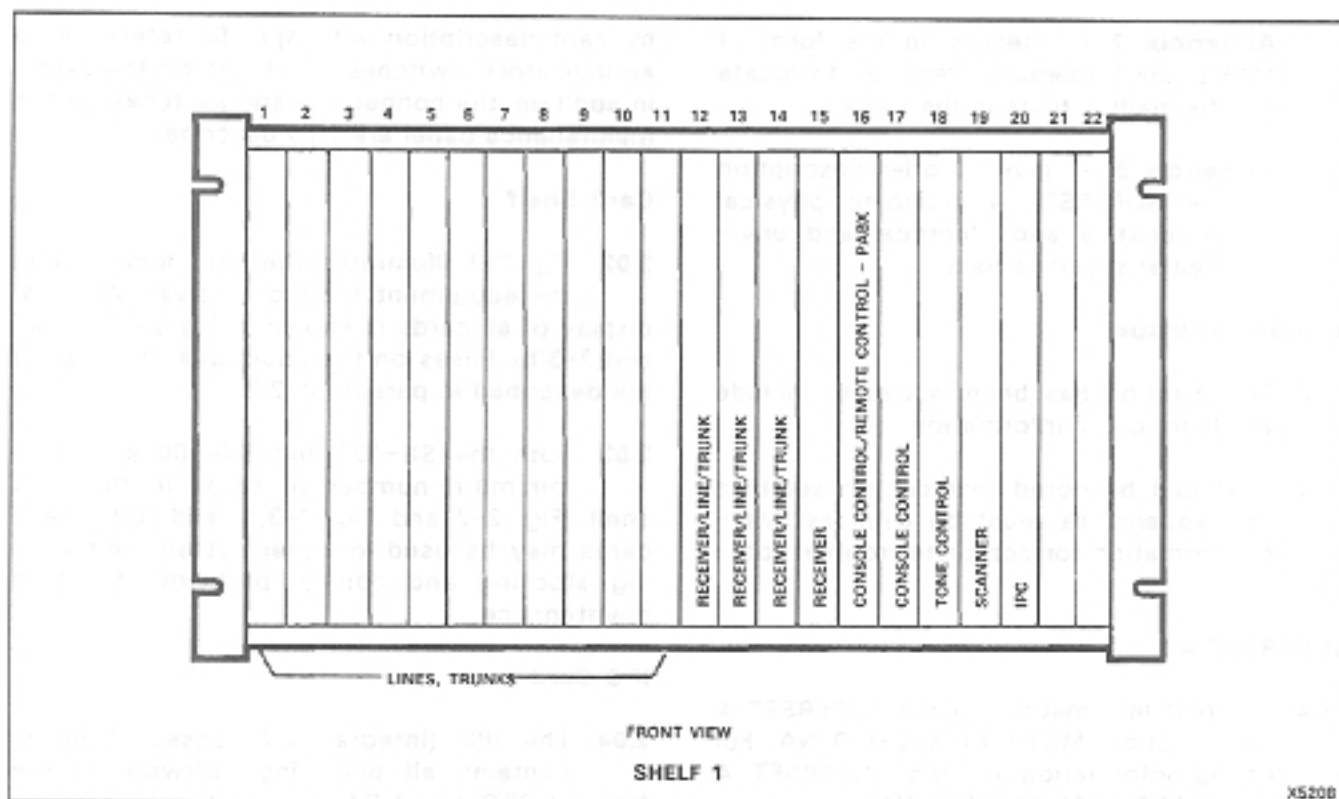

Fig. 2-1 Equipment Shelf
2.02 Fig. 2-1 illustrates the card locations in the equipment shelf or shelves. A visual display of all cards is shown in Fig. 2-2, 2-3(a), and 2-3(b). Fuses on the backplane of the shelf are described in paragraph 2.25.